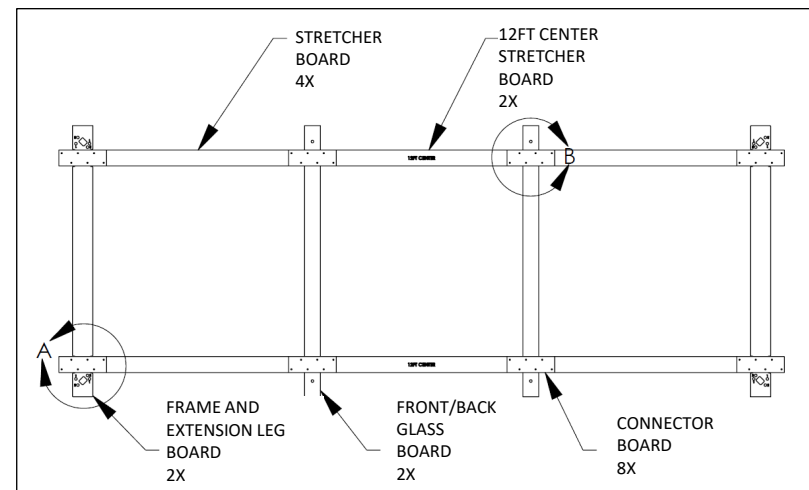

FIG A2 – TEMPLATE COMPONENTS
1. Layout template pieces as shown in Fig. A2. Install dowels.